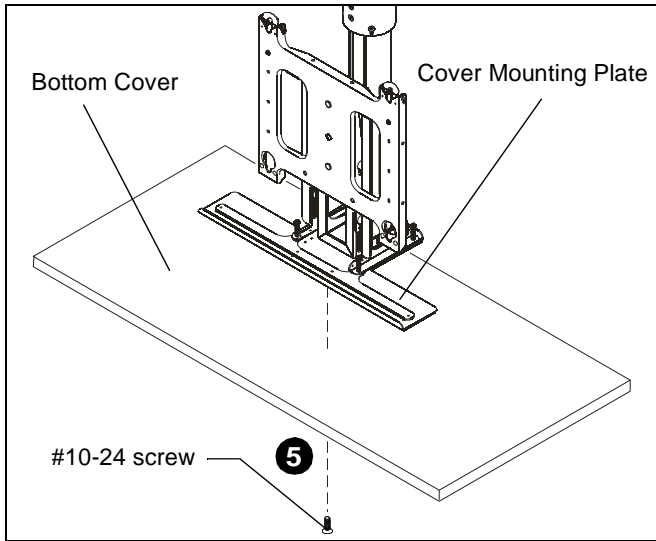

Figure 25
5. Assemble bottom cover to cover mounting plate using #10-24 screws a minimum of 1/4" plus the thickness of the cover material long. (not provided). (See figure 25)